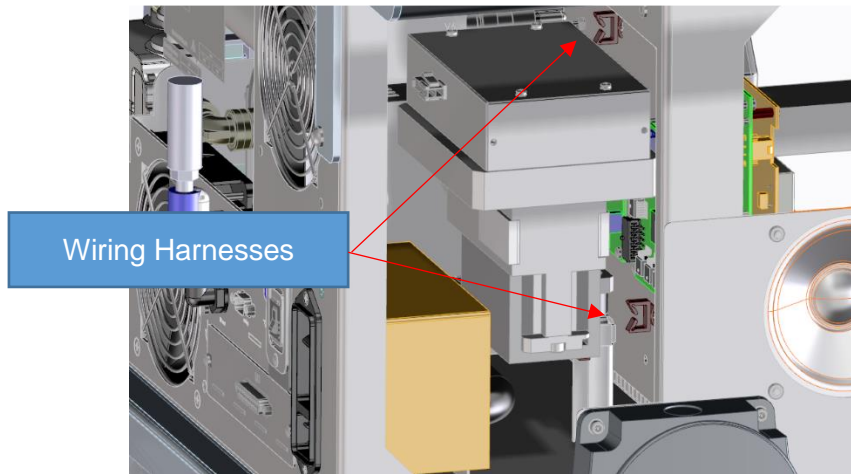
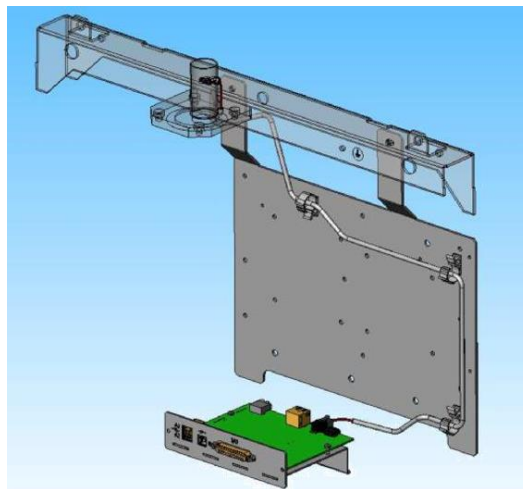

Figure 6: Wiring Harnesses
Figure 7: Flapper Box Wiring Harness Layout
10. Install the Flapper Box Wiring Harness, as shown ("Figure 6: Wiring Harnesses") and ("Figure 7: Flapper Box Wiring Harness Layout"), utilizing the top two wire clips; only use bottom wire clip if accessible.